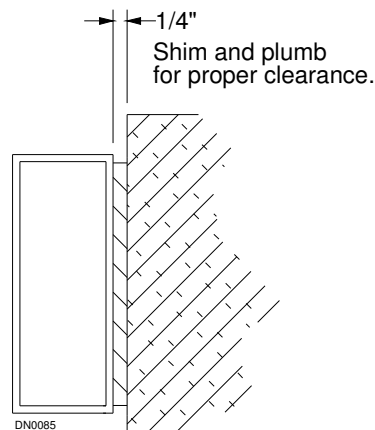

Figure 6
6. Plumb one jamb tube in both planes. If required, shim back of jamb (See Figure 6). Fasten jamb to building.